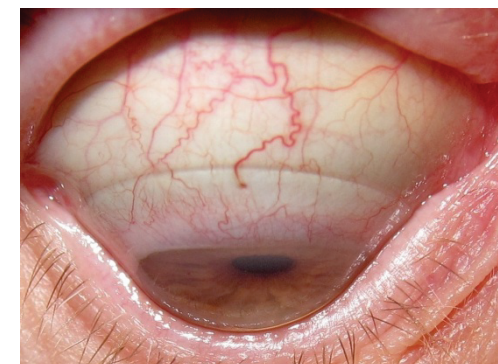

Figure 3
5. Next, use a diffuse white light to observe the haptic portion of the lens, which is resting on the sclera. The weight of the lens should be evenly distributed and should not blanch the blood vessels of the bulbar conjunctiva (Figure 3); however, intermittent areas of blanching are usually acceptable. Contact Visionary Optics' consultation for assistance if the best diagnostic lens is inadequately fitting the eye.